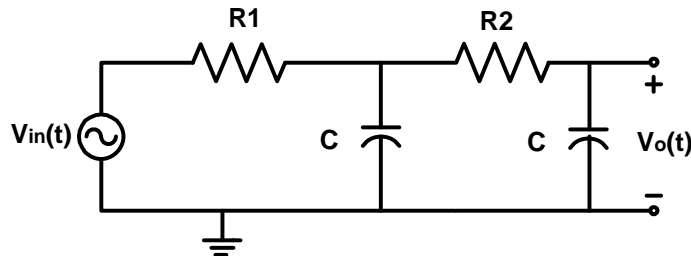

Fig. 3. Second order low pass filter
5. For the circuit shown in Fig. 3, derive the transfer function for  $v_o/v_{in}$  in terms of  $R_1$ , and  $C_1$ , and find the expressions for the magnitude and phase responses. You may assume  $R_2 \gg 2R_1$ . Express your results in the form
- Design (find component values) a passive second-order low pass filter such as the one shown in Fig. 3. Determine  $R_1$  and  $R_2$  for  $C = 47\text{nF}$  such that the first pole is at 1,700 Hz and the second pole is at 35 Hz. You **must** use PSpice to verify your design.
1. Build the circuit shown in Fig. 3 with  $R$  and  $C$  you found in the pre lab. Apply a 6Vpp sinusoid from the function generator to the input.